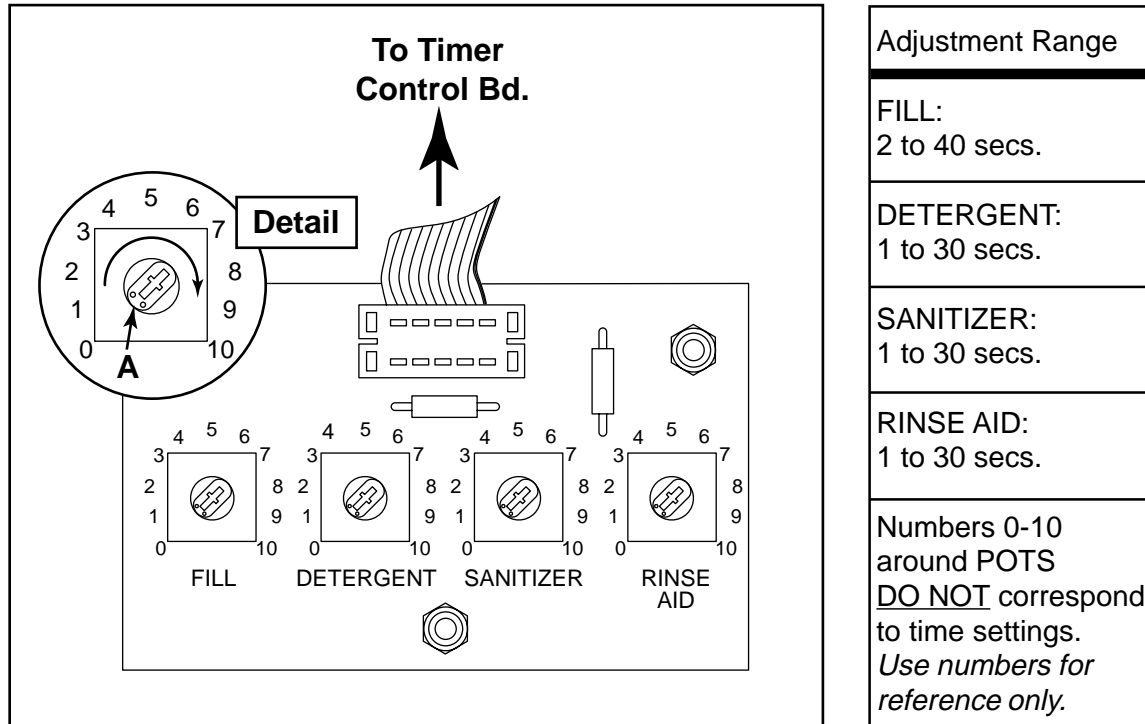

Figure 7.3.3
7. Note the position of the potentiometer adjustment screws. Refer to the potentiometer detail in Fig. 7.3.3 above. Each pot has two small dots in one end of the adjustment dial which denotes the pointer on the dial.